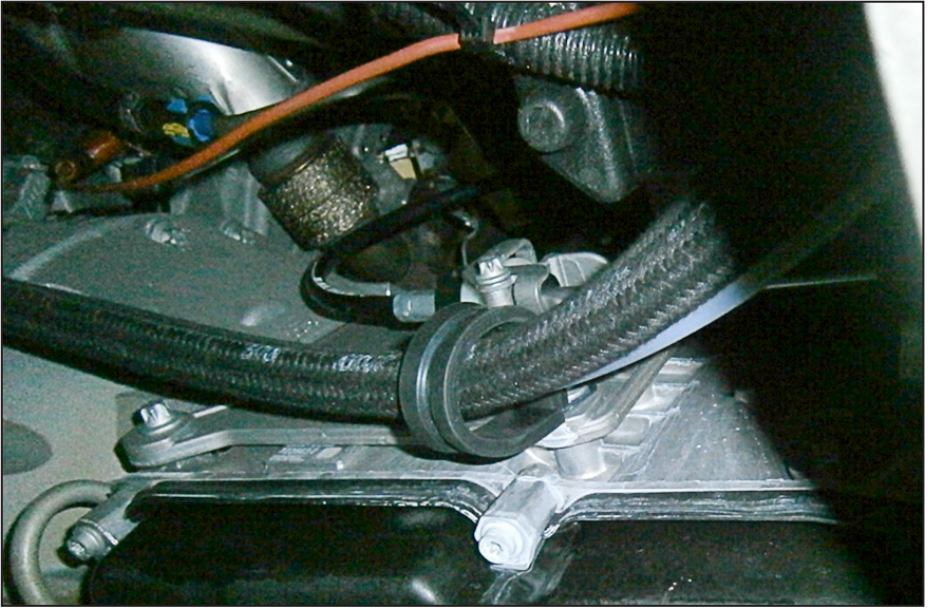

Figure 39 — Install P-clip
- Route the hoses toward vehicle's battery box and install the supplied P-clip using the OEM bolt (Figure 39).